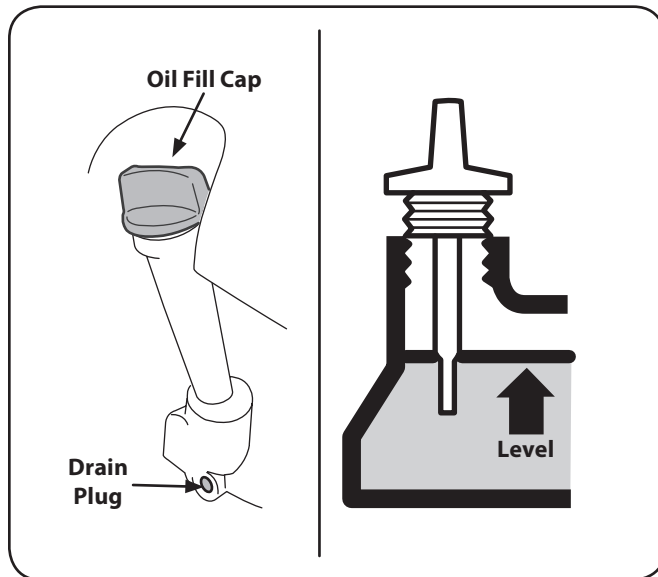

Figure 10-1
2. Remove drain plug and allow oil to drain into a suitable container. See Fig. 10-1.
4. Refill with the recommended oil (see Operation section) and check the oil level. See Fig. 10-1.